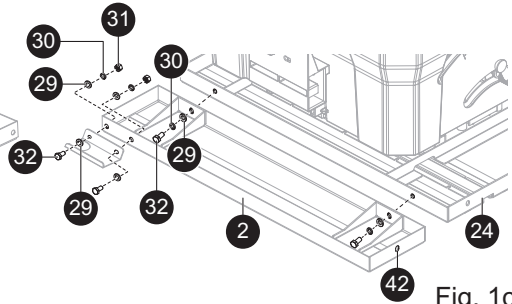

Fig. 1c
- > Attached the hose hold [18] to the right extension table [2] with flat washers 6 [29], spring washers 6 [30], hex bolts M6 x 16 [32] and hex nuts M6 [31]. (Fig. 1c)